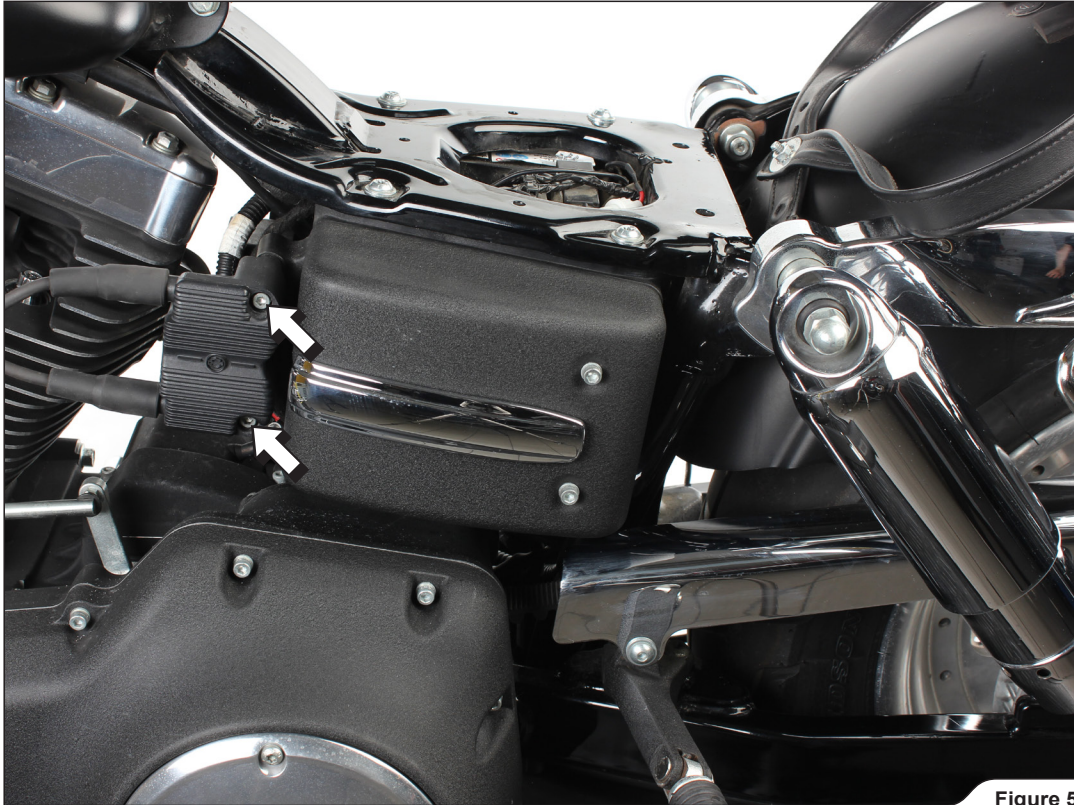

Figure 5
6. Unscrew the marked coil bolts and carefully move the coil (**Figure 5**).